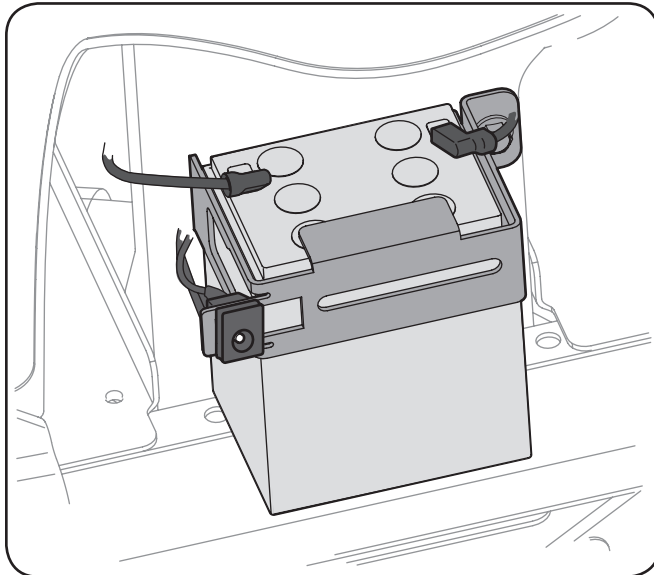

Figure 3-7
2. Plug the black lead onto the Negative terminal on the battery. See Figure 3-7.